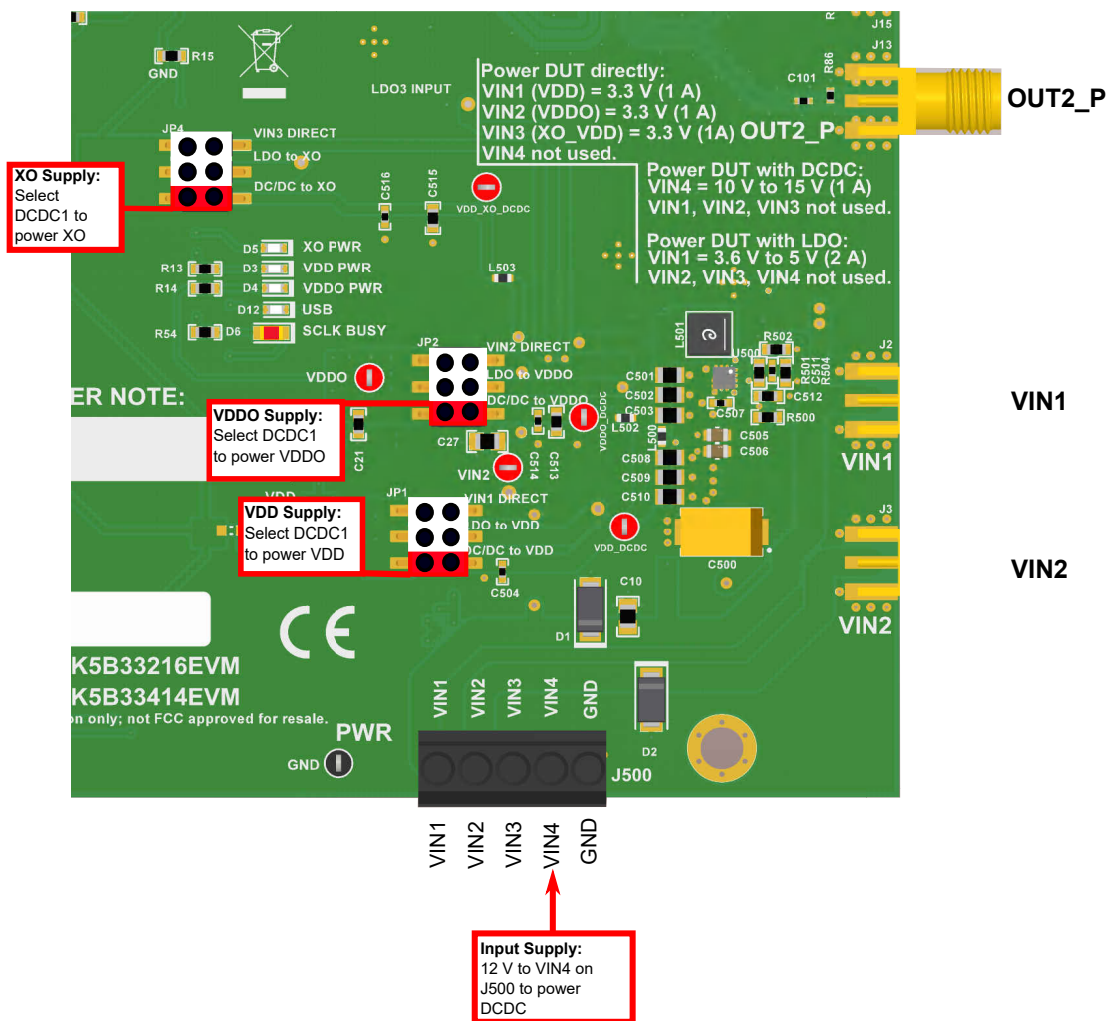

Figure 3-2. Default Power Jumper Configuration
- a. VIN4 and GND terminals on header J500 (pins 4 and 5, see Figure 3-2.)
Figure 3-2 shows the default power jumper locations and settings. Table 3-2 shows the suggested power configurations for the LMK5B33414.